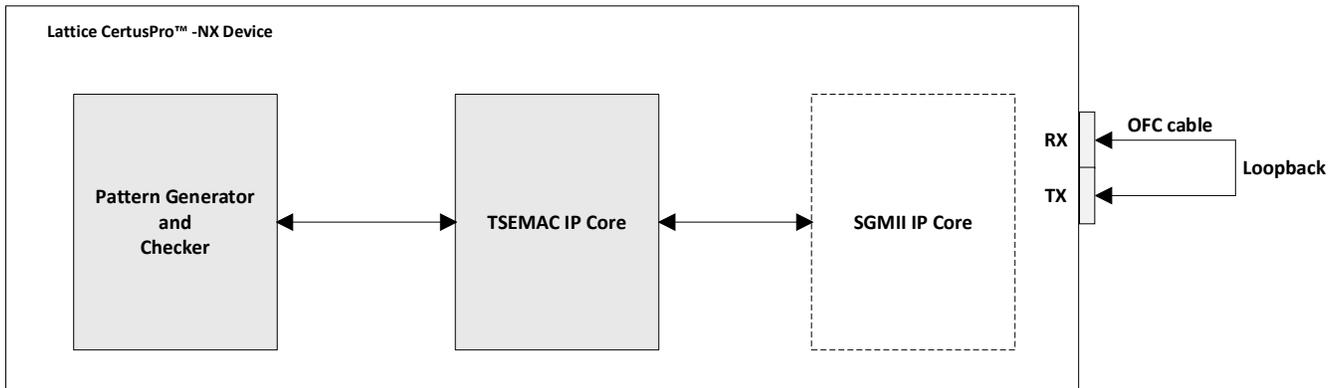

Figure 8.16. External Loopback Connection
- Connect the optical cable back-to-back (TX-RX), as shown in Figure 8.16.